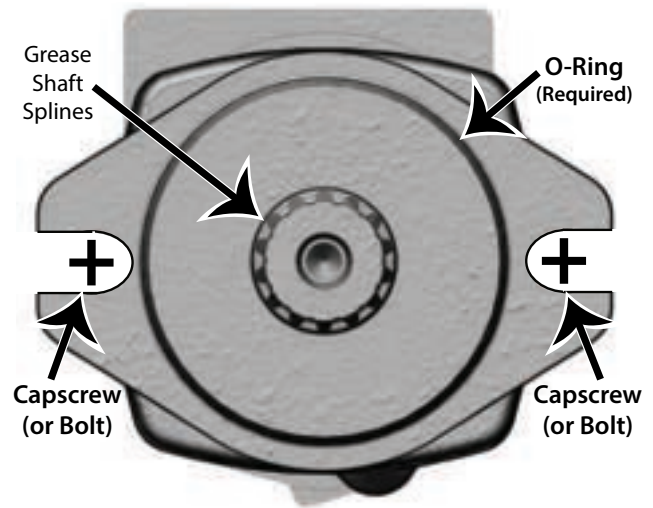

Figure 5-48. Hydraulic Motor Mount
When installing hydraulic motors, it is important that the mounting flange of the motor makes full contact with the mounting surface of the application. **(Figure 5-48)** Mounting hardware of the appropriate grade and size must be used:
2. Install lock washer over capscrew. **(Figure 5-48)**